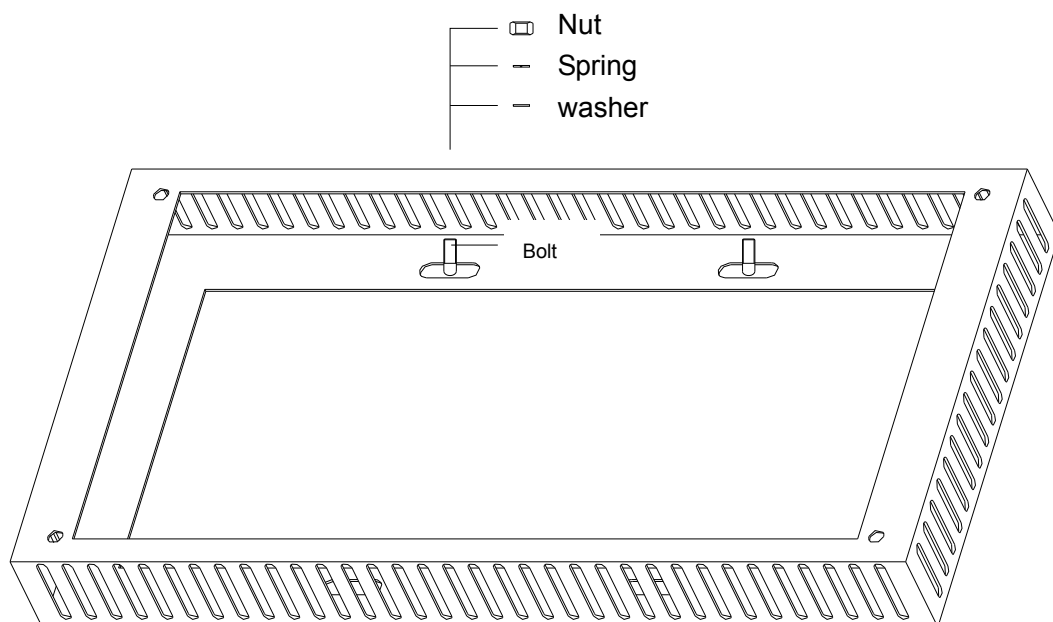

Figure 3 Installation Diagram
- a) **Concrete Platform Installation:** When the UPS is required to be installed on concrete platform, firstly pre-install four M10 anchor screws on the concrete platform according to the dimensions of A or B group installation holes shown in Figure 3, and then fix the base to the platform using M10 screws, flat washer and spring washer shown in Figure 3. After that, place the UPS rack on the fixed base and open the front and rear panel to fix it to the base again using the 4 M8 screws removed in the second step, as shown below.